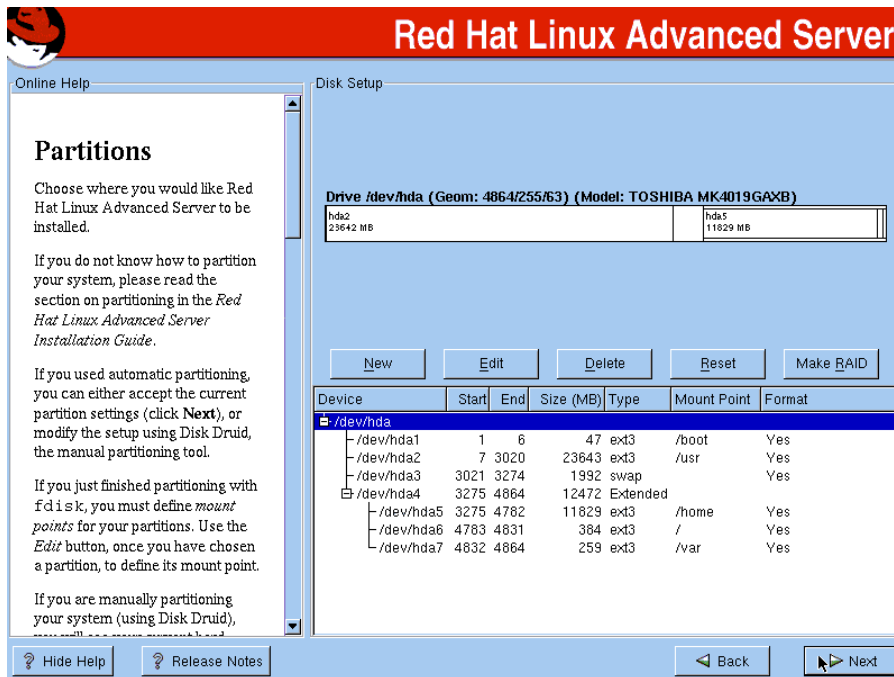

Figure 21. Disk Setup
- d. On the Disk Setup screen, shown in Figure 21, notice the sizes of / (root filesystem), /user, and /home. The Oracle installer requires up to 400MB of temporary space, so we increased the root filesystem to provide a large enough /tmp. We also reduced both /usr and /home to create a new partition for our ORACLE_HOME.